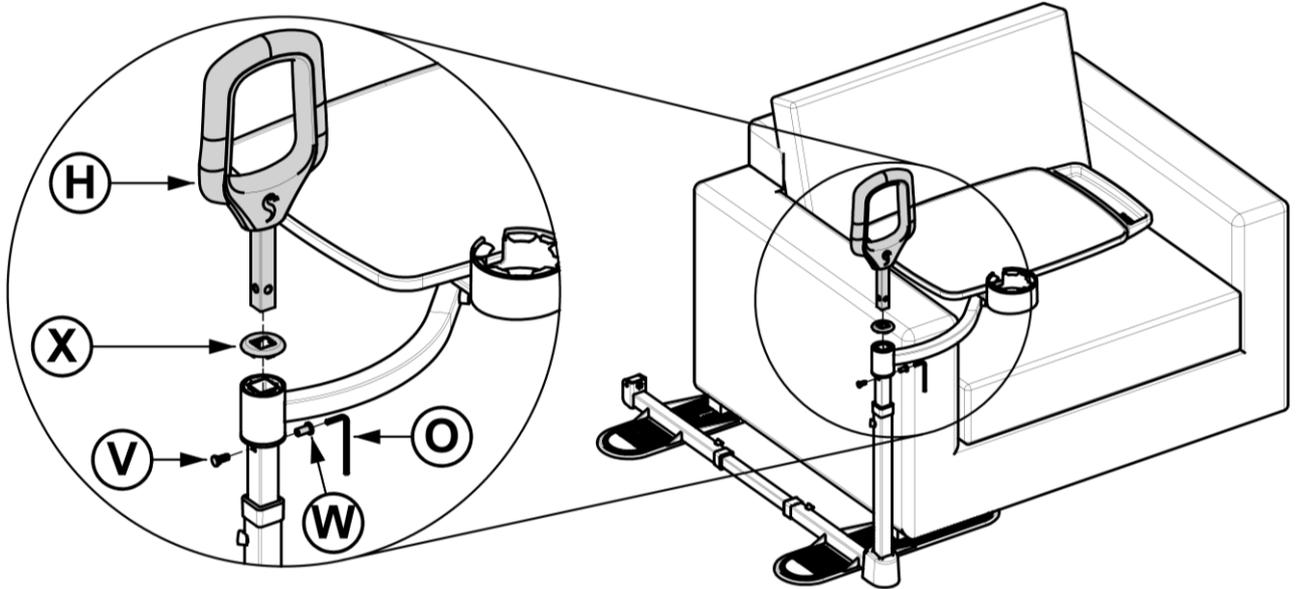

FIGURE 13
13. Insert Handle **H** through Cap **X** into uprights. Secure with Bolts **V** and **W**, as shown in *FIGURE 13*.